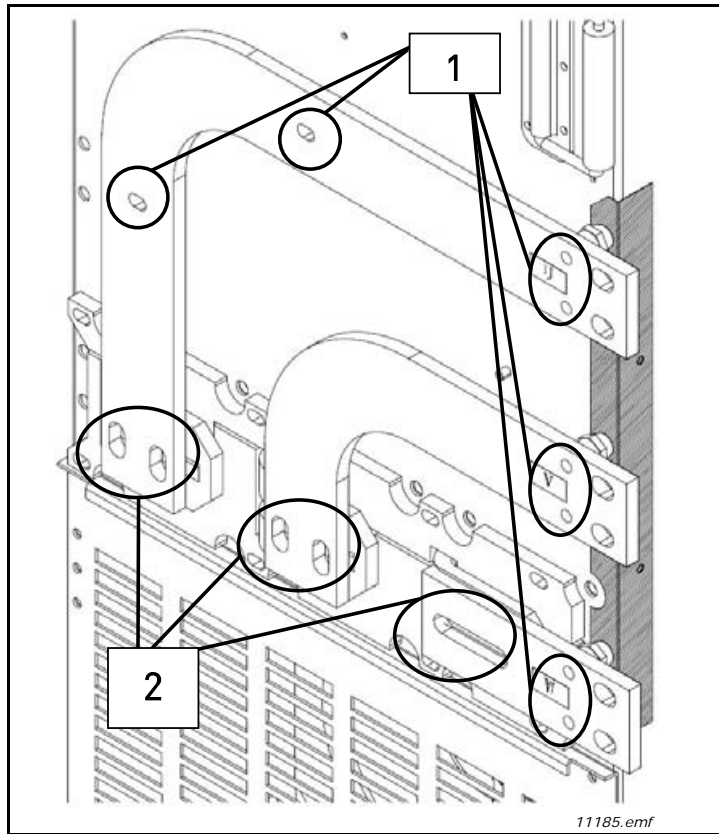

Figure 26. Right-side connection
1. Open fastenings numbered by 1 in Figure 26.
2. Open fastenings numbered by 2 in Figure 26.